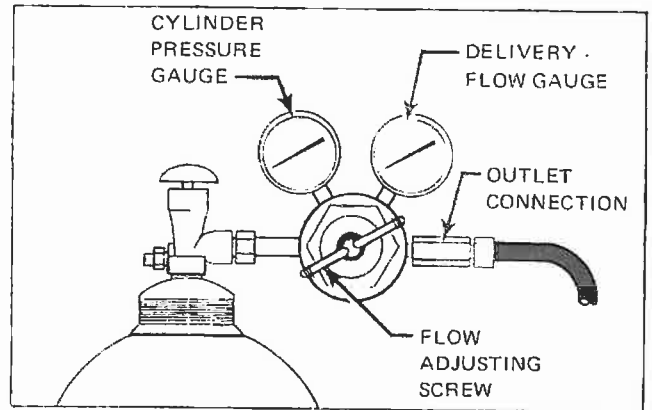

Fig. 4 - R-27-CF-580 Regulator
- Make sure the regulator flow adjusting screw is released by turning it counterclockwise until it turns freely. (see Fig. 4).
- Attach the gas hose (P/N 678439) to the regulator outlet connection (see Fig. 4).